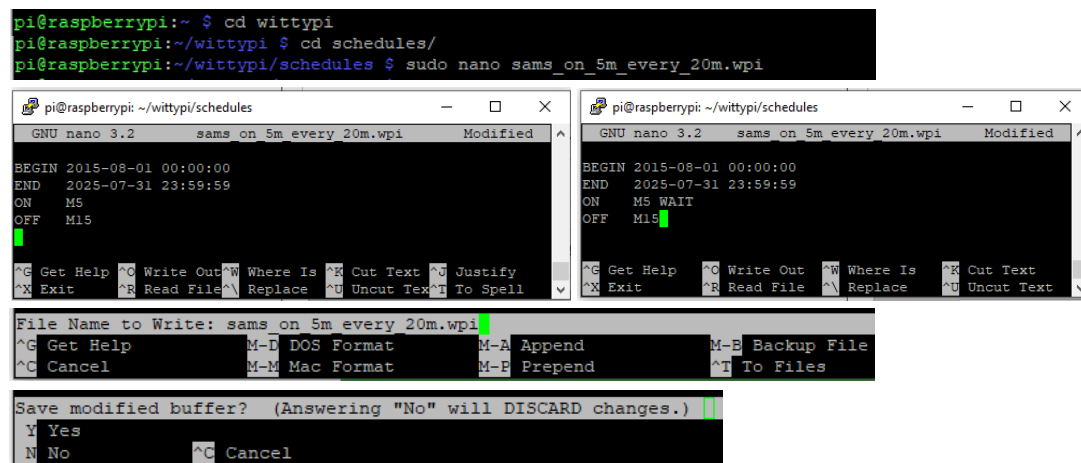
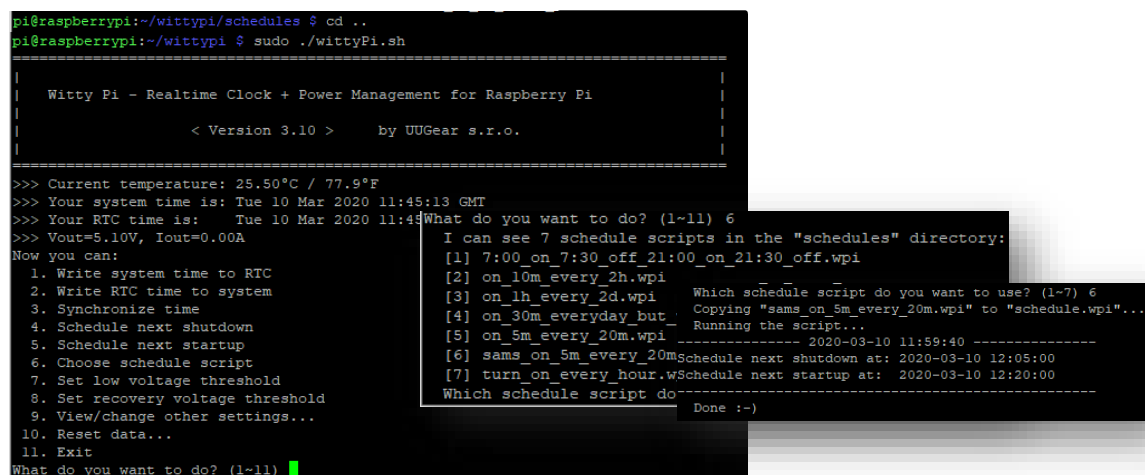

Figure 33: Create Witty Pi Schedule Script via SSH Terminal
Figure 34: Start Witty Pi Software (bash script)
Option 2: Using SSH connection (Chapter 3.3) a new file should be created in the folder *wittypi/schedules/* with the extension *.wpi* (Figure 33). The code of the schedule script is copied into this and the file can be saved and closed with Ctrl + X and confirmation with Y (Figure 33). Then change to the */wittypi/* folder and start the Witty Pi software (a bash script) with the command *sudo ./wittyPi.sh* (see Figure 34). There you can select and activate the previously created script under the menu item 6 Choose schedule scripts (see Figure 34).